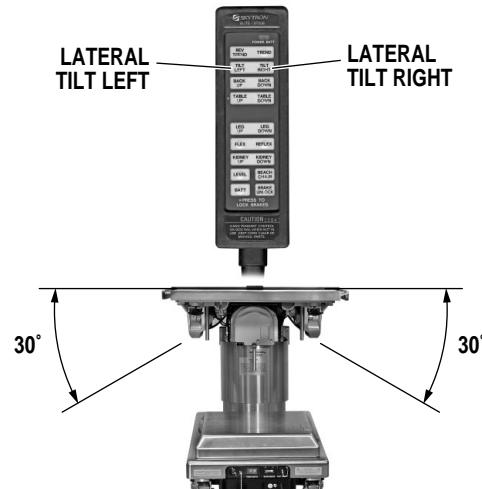

Figure 2-7. Lateral Tilt Positioning
**c. Lateral Tilt.** To achieve lateral tilt right (as viewed from the head end of the table), press the TILT RIGHT button (figure 2-7). To achieve lateral tilt left, press the TILT LEFT button. Tilt of up to 30° may be obtained if Trendelenburg positioning is less than 20°.